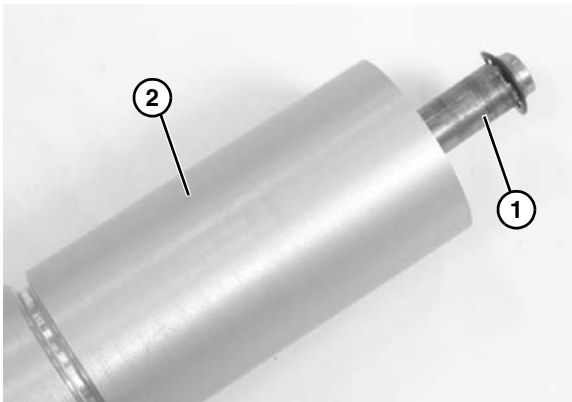

Figure 45
- Slide the shaft assembly (**Figure 45, item 1**) out of the pulley (**Figure 45, item 2**).